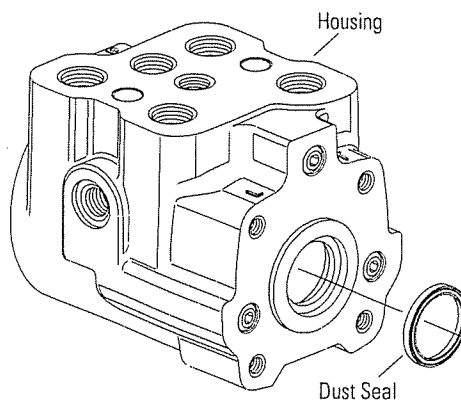

Figure 11
2. Install press-fit 24,9 mm [.98 in.] ID seal in housing with metal surface of seal facing toward housing (figure 11).